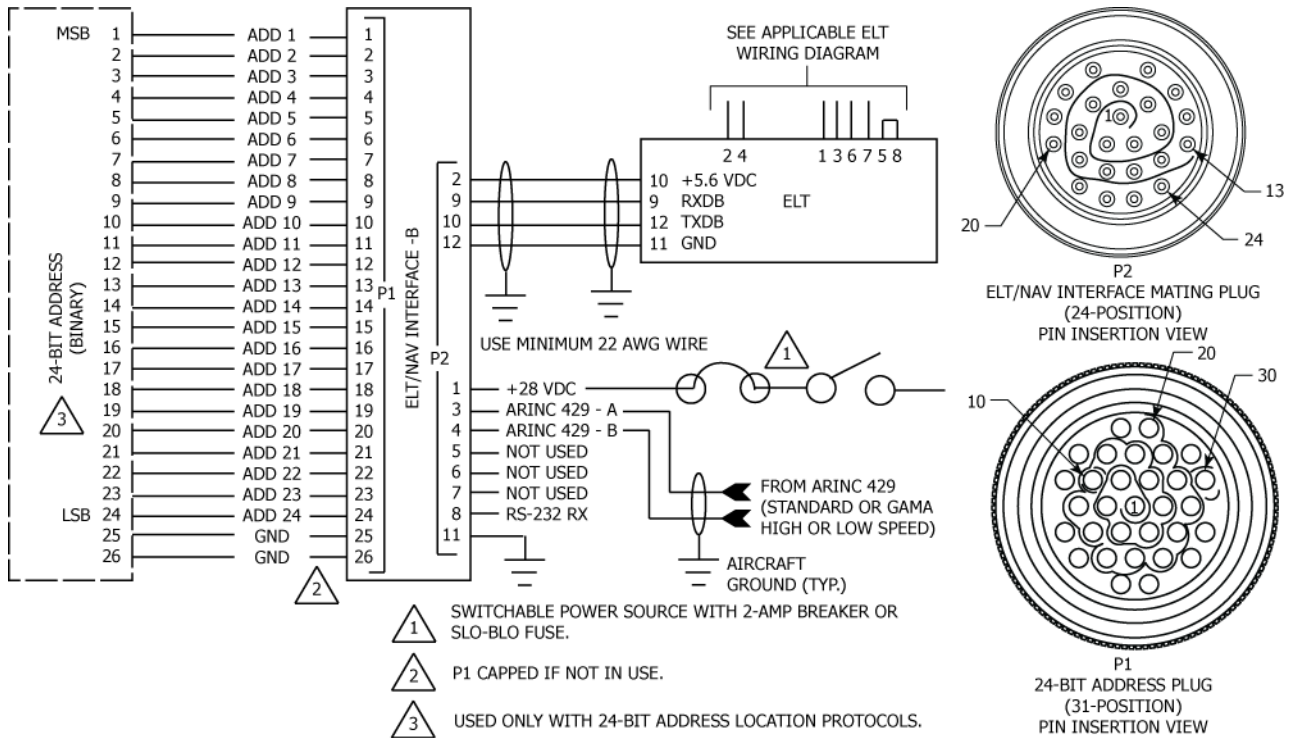
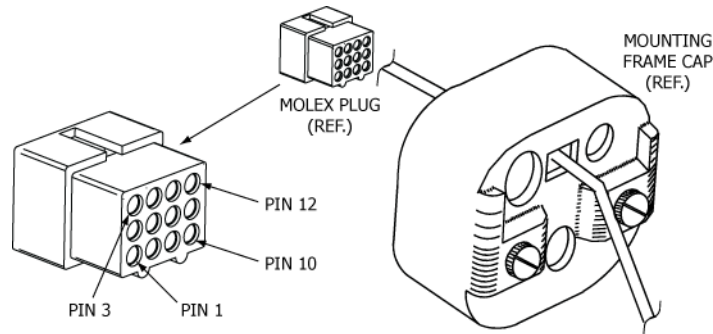

Figure 8 ELT/NAV Interface -B Wiring Diagram
Figure 9 Wiring Installation at ELT End
1) See Figure 8 ELT/NAV Interface -B Wiring Diagram.
- 8) Feed the wires going to the ELT through the ELT mounting frame cap. See Figure 9 Wiring Installation at ELT End.
- 9) Install the wires at the ELT end into the Molex receptacle. See Figure 9 Wiring Installation at ELT End and Figure 8 ELT/NAV Interface -B Wiring Diagram on page 40.
- 15) Connect the ground wires to the airframe in accordance with the aircraft manufacturer's written instructions or as described in AC 43.13-1, Chapter 11, § 15, as applicable. See Figure 8 ELT/NAV Interface -B Wiring Diagram on page 40.
- 16) Tie all shields to aircraft ground in accordance with the aircraft manufacturer's written instructions or as described in AC 43.13-1, Chapter 11, § 15, as applicable. See Figure 8 ELT/NAV Interface -B Wiring Diagram on page 40.
- 6) Insert the contact pins into the appropriate pin locations of the 150-6502 plug (P1). See Figure 8 ELT/NAV Interface -B Wiring Diagram on page 40.
- 7) Verify each pin is inserted into the pin location on the P1 plug that corresponds to the appropriate bit address. See Figure 8 ELT/NAV Interface -B Wiring Diagram on page 40.